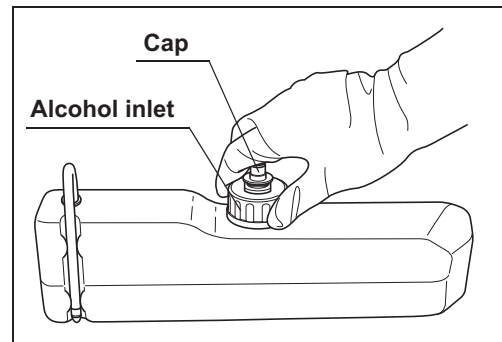

Figure 4.120
- 4 Turn the cap on the alcohol inlet in the direction shown in Figure 4.120 to remove it.